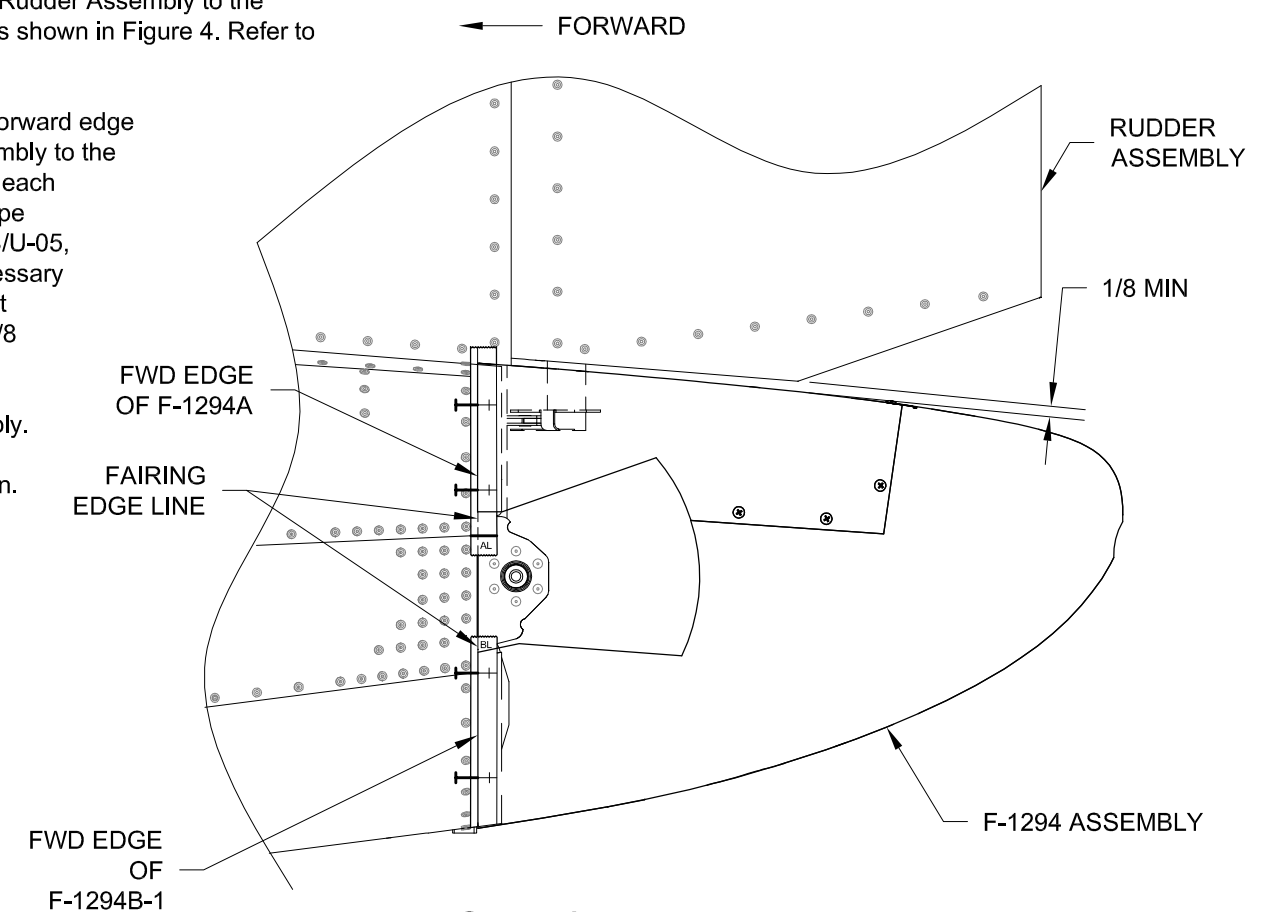

FIGURE 4:
Step 10: Install the Rudder Assembly to the V-Stab Assembly as shown in Figure 4. Refer to Section 11iS/U.